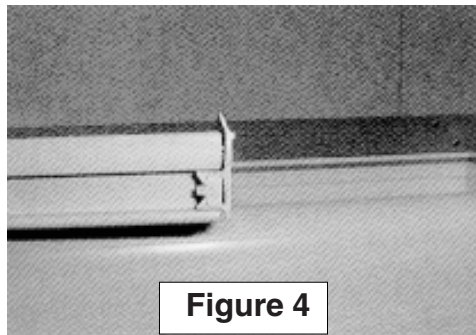

Figure 4
- Install the lower glass first. Again, the lower glass is the smaller of the two. It has a flexible vinyl seal (Figure 4) and a lock plate. The flexible seal should be facing up and positioned on the end away from the two (2) round retaining studs. Place the panel in the center and slide along the lower track until it is secure under the two retaining studs.
- Place the upper glass panel over the lower glass panel already in place. Slide it over the lower lid past the flexible seal. You will notice a slight resistance with the lower lid gasket. Slide the upper panel under the four (4) studs on the upper track of the frame.